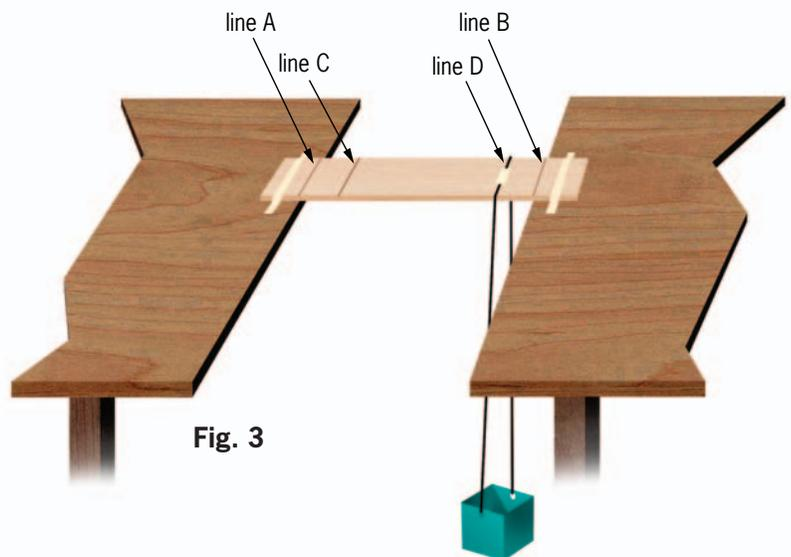

Fig. 3
6. Set up an unnotched, undrilled slat as shown in Fig. 3. Align slats so lines A and B are right at the edges of the desks. Tape in place. Hang the carton bucket from the slat. Place the string on line D. Tape lightly in place to avoid slipping. Be sure the bucket hangs free about 4 in. above the floor.